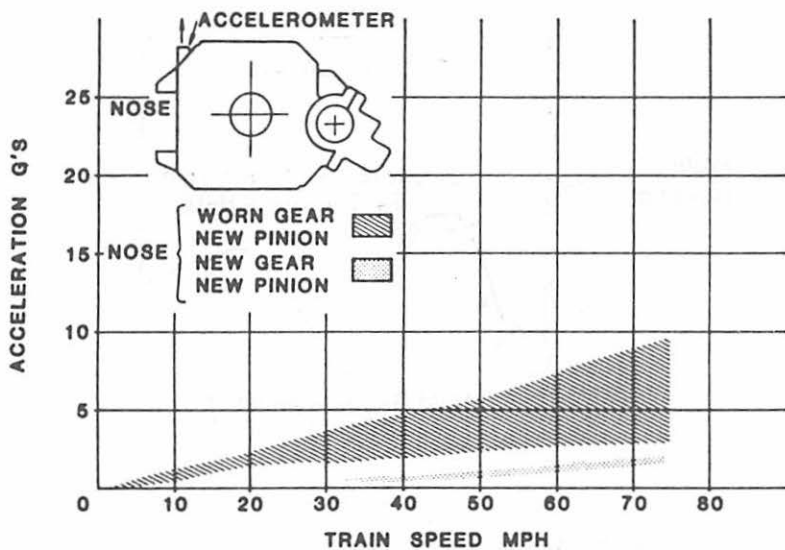

Fig. 7
1. Mixing new and excessively worn gears causes much higher traction motor stator vertical accelerations at the nose support and over the axle as compared to new gears (Figs. 7 and 8).